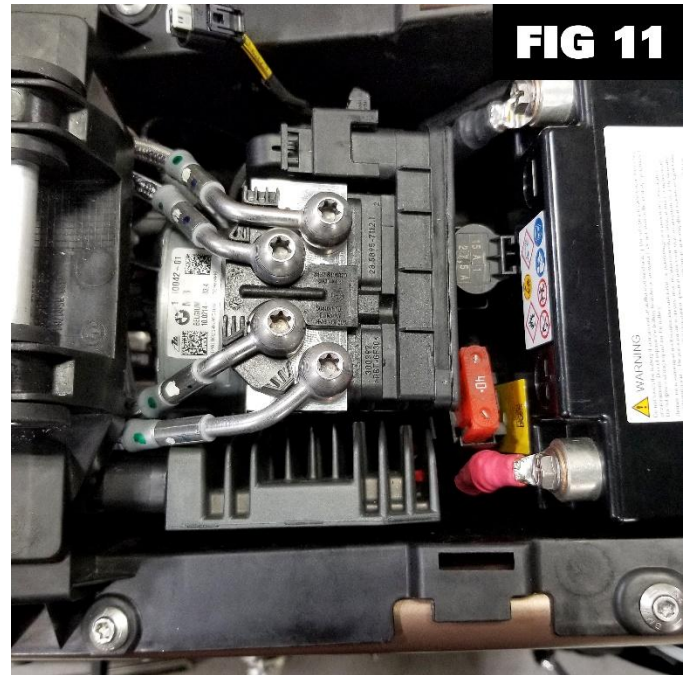

FIG 11
37. Relocate voltage regulator, 40-amp fuse, and small fuse box as shown. **(FIG 11)**